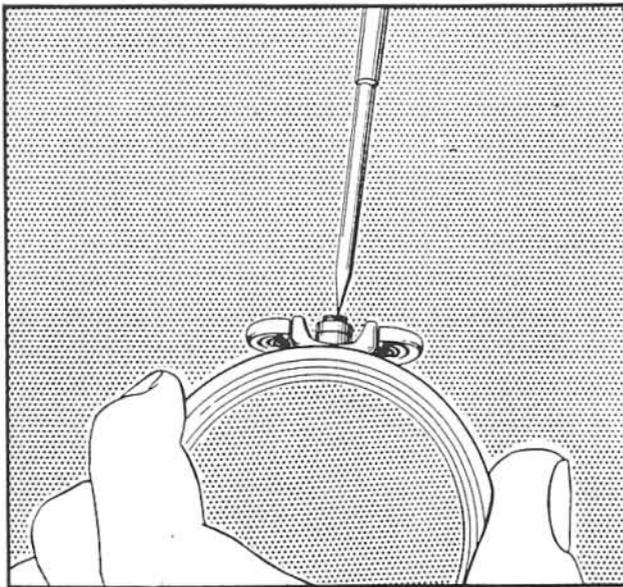

Figure 10—Removing Seal Plug
(7) **CASE RING.**—After removal of the movement from the case ring, the stem dust-seal assembly can be removed from the case ring if necessary. To do this, unscrew the seal plug as shown in figure 10 from the stem hole in the ring. The seal sleeve, helical ring and spring seat ring will then drop out.